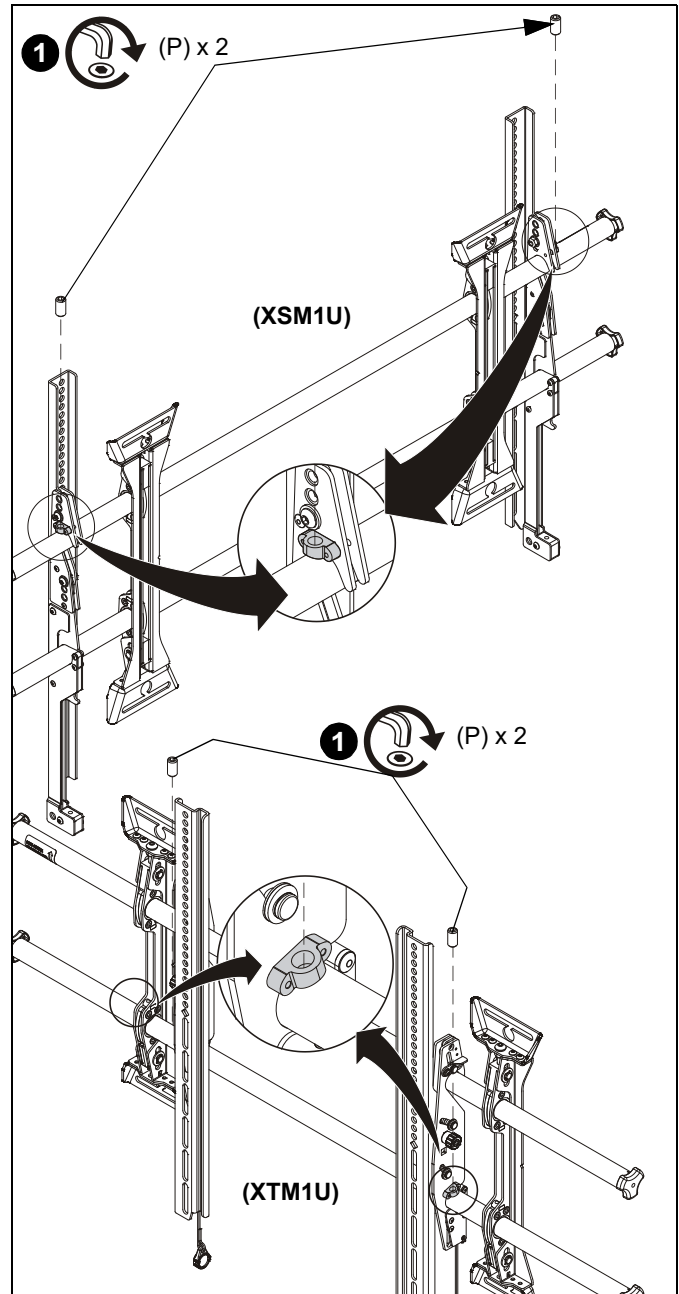

Figure 24
1. Lock screen interface brackets onto mount rails using one 3/8-16 x 3/4" set screw (P) on each interface bracket. (See Figure 24)